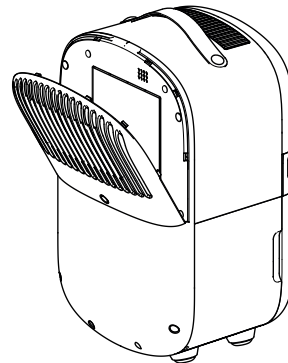

Fig. 7
2. Clean the case with a soft, damp cloth; next, wipe it dry. Use a bit of a gentle detergent to remove persistent grime. Remove the filter cover (6) from the device, remove the HEPA filter (10) and the carbon filter (fig.7). Pre-dust the cover (6) with a delicate brush, wash it in water with detergent, then rinse and dry it. The mesh in the grille (pre-filter) must be completely clean after washing. In case of larger dirt, repeat the washing process. Dust the carbon filter and HEPA filter insert with a delicate brush, but do not wash it in water. After cleaning, reinstall the filters in their places. Clean them every 2-3 weeks. In case of mechanical damage, replace them with new ones. Replace filters with new ones every 3-6 months.